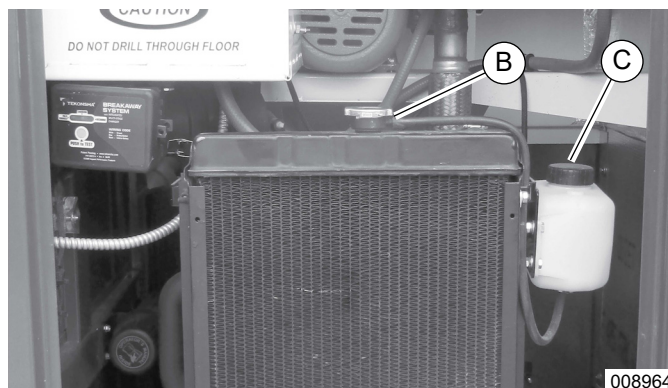

Figure 4-3. Radiator Location
3. See Figure 4-3. Remove radiator cap (B).